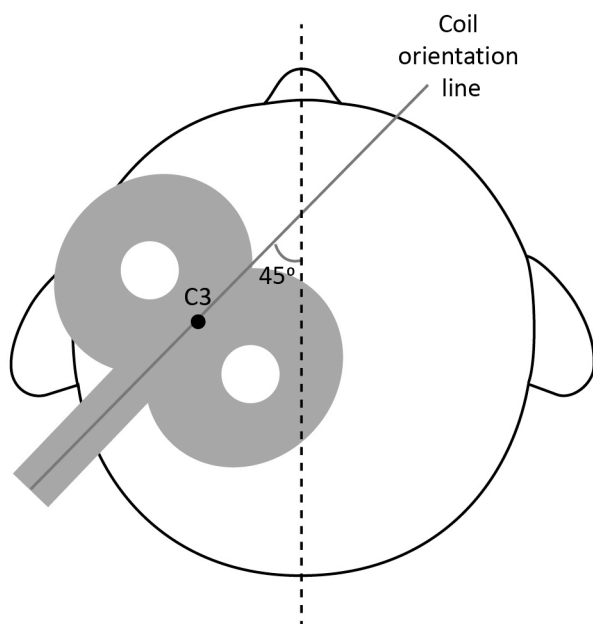

Fig. 35. Correct coil positioning for MT-detection.
19. Place the coil **on C3** at 45° in relation to horizontal plane, with the arrow pointing toward the upfront and the handle downward and backward (Fig. 35).